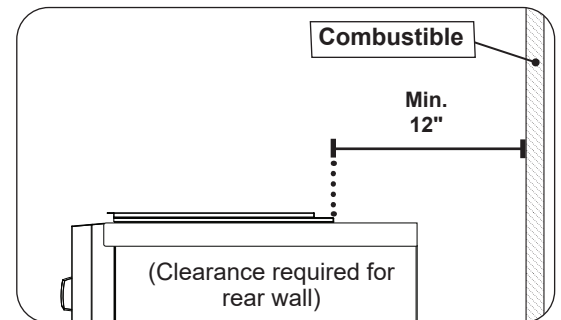

Fig. 18-3 Clearance 'C' Diagram
- The unit must have a minimum clearance of 12" from the combustible rear wall (see Fig. 18-3).